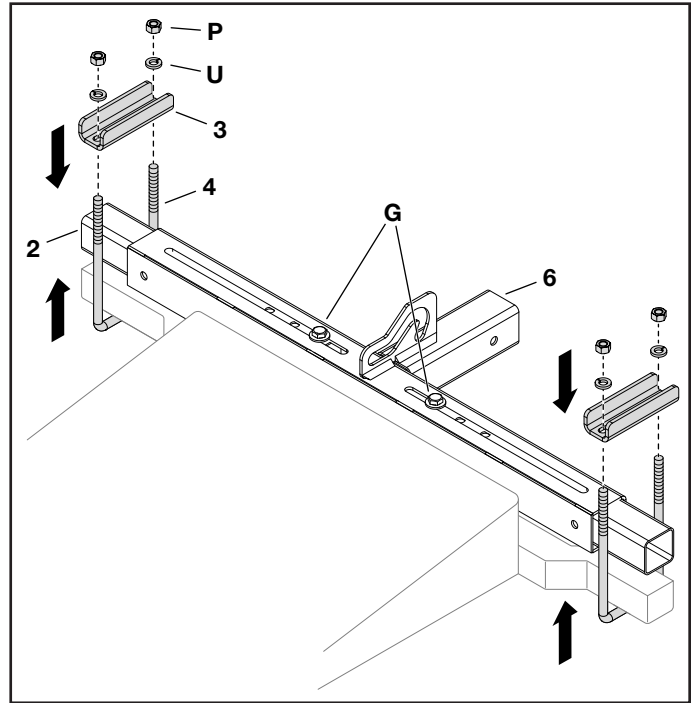

FIGURE 2
STEP 2: (SEE FIGURE 2)
- Attach the hitch mount assembly (6) to the tractor frame using two U-bolts (4) secured with two mounting brackets (3), four washers (U), and four Nylock hex nuts (P). Do not tighten.
- If the slider tube does not fully extend into both U-bolts (4), then loosen the appropriate hex bolt (G) and reposition the slider tube (2).